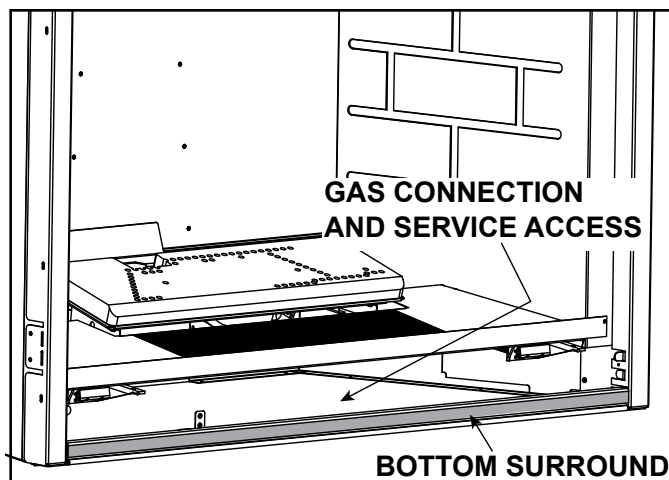
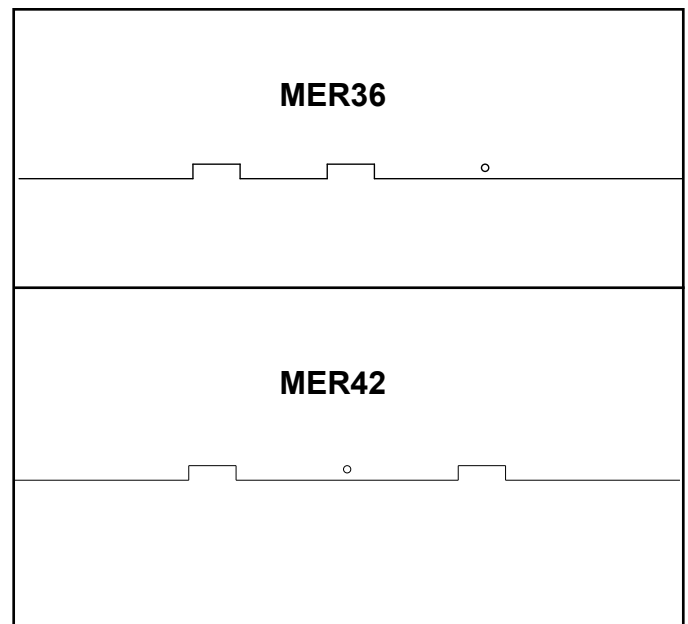

Figure 9.1 Bottom Surround Removal
Figure 9.3 Burner Identification
- The bottom surround for this appliance may be removed to gain access to the control cavity for ease of access during the gas connection process. See Figure 9.1 and Figure 9.3.
Figure 9.3 illustrates the identification pattern of the burner. This can be found on the underside of the burner along an edge.